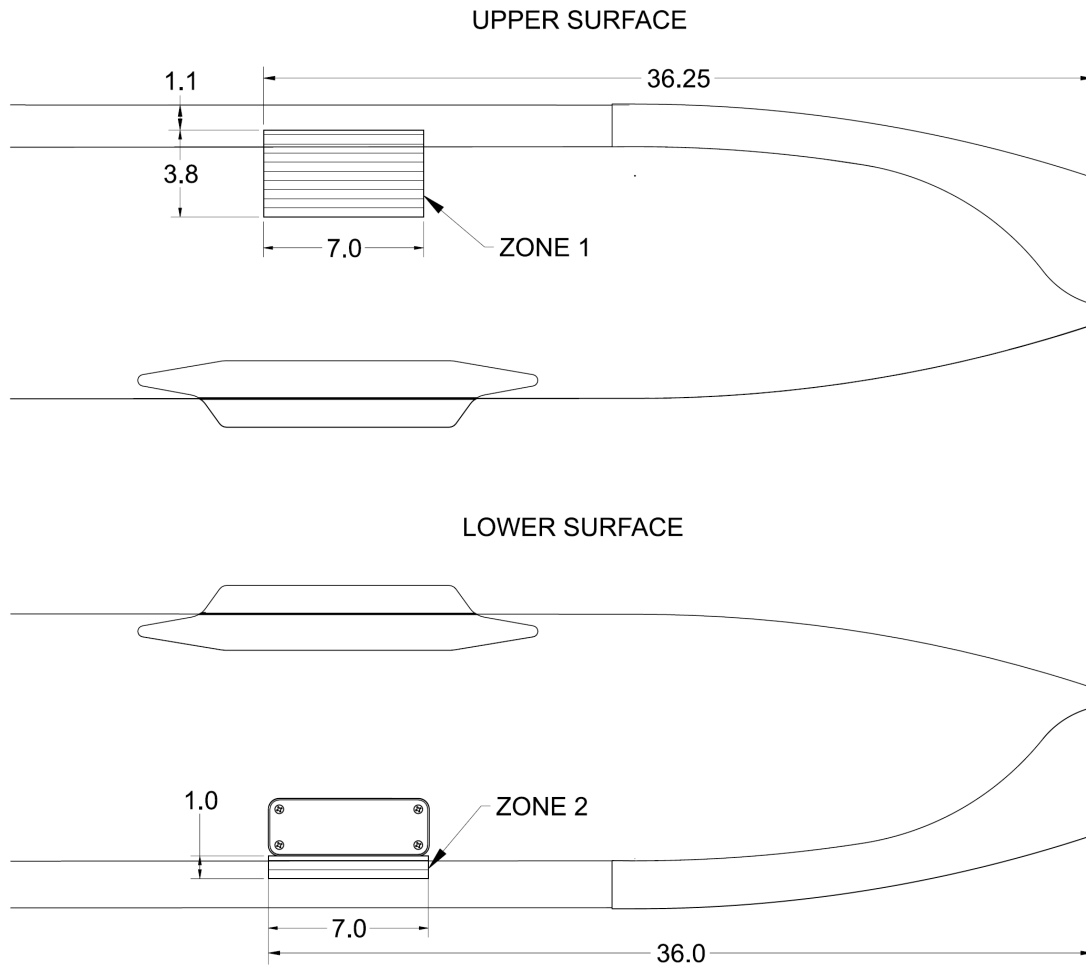

Figure 4 – Tap Inspection Locations with Grid Markings (Zone 1 & Zone 2)
- (1) Do not remove the weight receptacle cover plate. The cover plate does not affect the results of the tap inspection.
- (2) Use a permanent marker and draw inspection Zone 1 on the upper surface of the blade, and draw inspection Zone 2 on the lower surface of the blade as shown in Figure 4. Draw parallel lines from the inboard end of the inspection zones to the outboard end of the inspection zones with the lines spaced 0.5 inches apart.
- (3) Do a visual inspection within Zone 1 and Zone 2 to look for any changes to the contour of the blade surface. Look for cracks, splits or bulges. Report any discrepancies to VHA for disposition.
- (4) Use a tap hammer and tap inspect the area within each inspection zone. Start from the outboard end of each inspection zone and tap repeatedly along a parallel line while moving inboard. A change in the sound of the tap from a solid response to a flat, deadened tone indicates the presence of a delamination. Mark the location where the delamination starts. Repeat the tap inspection along the adjacent lines until the entire area is inspected and the full extent of the delamination is marked.